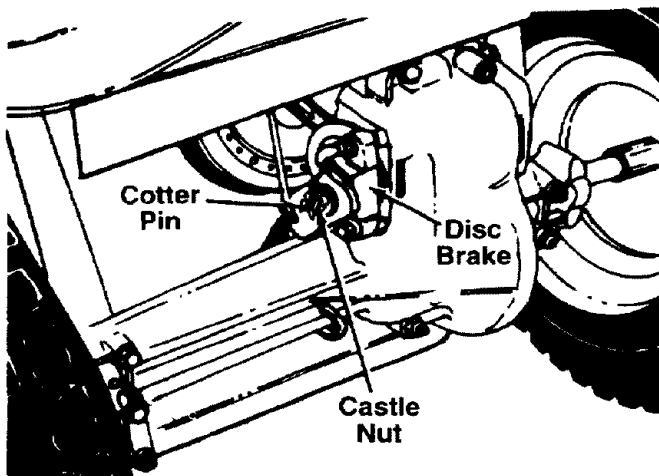

FIGURE 17.
## BRAKE ADJUSTMENT (See figure 17)
**NOTE:** Your brake may be equipped with a lock nut instead of the castle nut and cotter pin shown in figure 17.